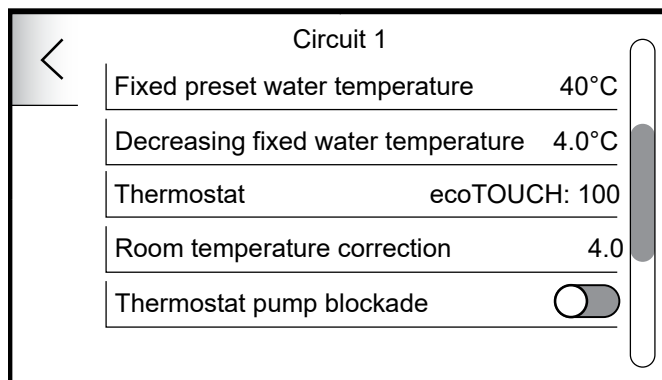

Figure 7-12: Edit Circuit 1 settings
4. Swiping the touchscreen display scroll down to 'Thermostatic pump blockade'. Tap the icon to switch on. (Refer to Figure 7-12)